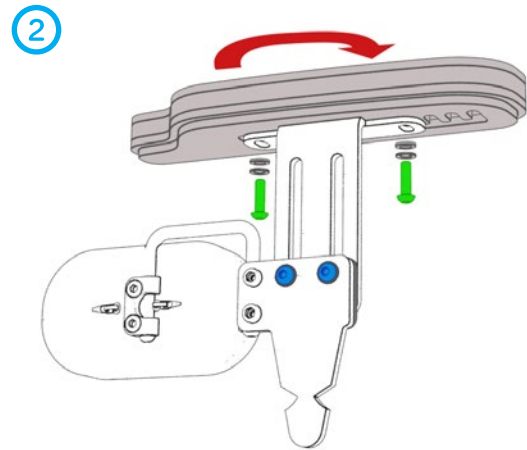

FIG 11
- 2) Unzip the arm support pad cover and remove arm support mount screws (green FIG 11) with washers, rotate the arm support so it is now forward facing and replace all fasteners and washers in the order in which they were removed. Set arm support to the desired position, fully re-tighten all fasteners and re-zip cover.